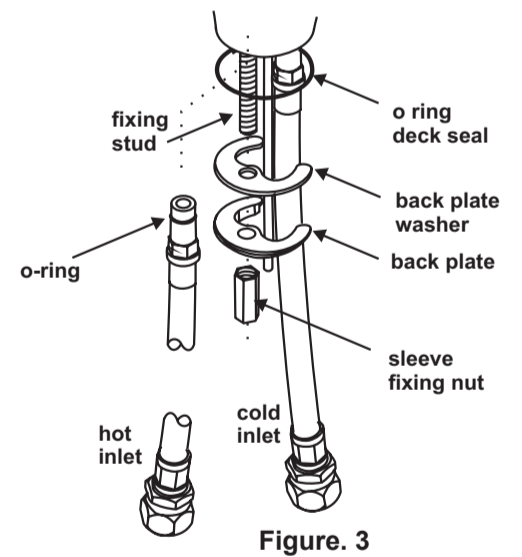

Figure. 3
- Insert the fitting into the tap hole, ensuring the deck seal is above the platform. Attach the back plate washer, back plate and sleeve fixing nut under the platform (Figure. 3).